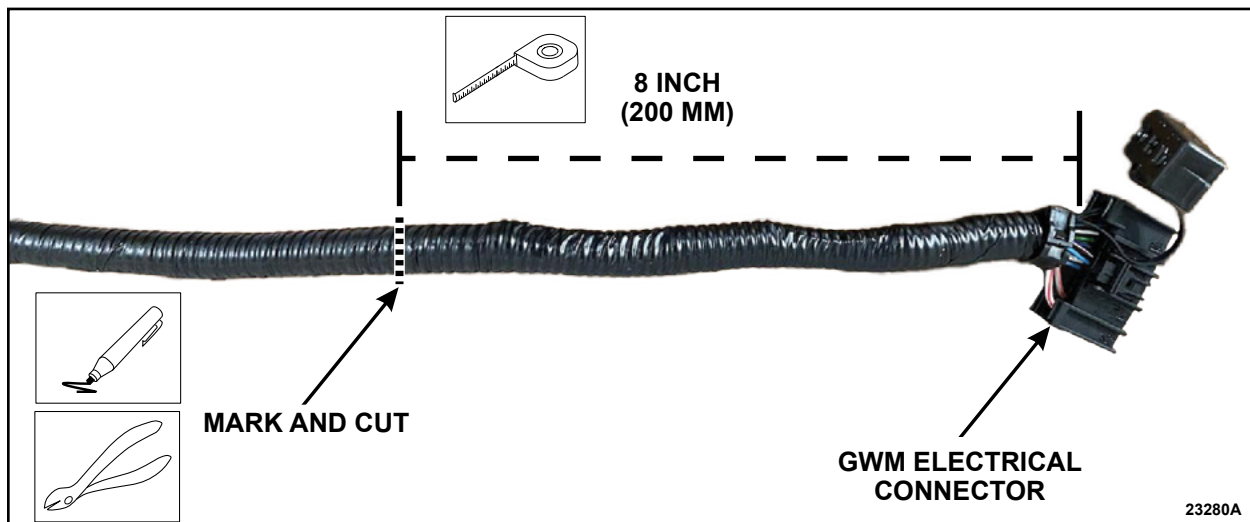

FIGURE 1
4. Measure and mark 8 inch (200 mm) from the back of the GWM electrical connector. Cut the harness on the measurement mark. See Figure 1.